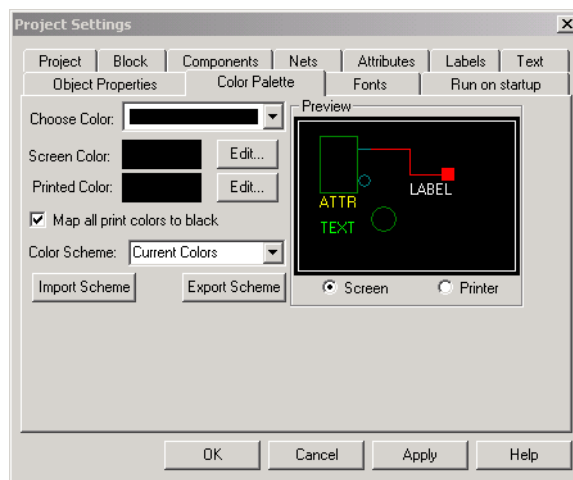

Figure 5-27. Settings Dialog Box, Color Palette Tab
1. **From the Project menu, click *Settings* to open the Settings dialog box, as shown in Figure 5-27.**